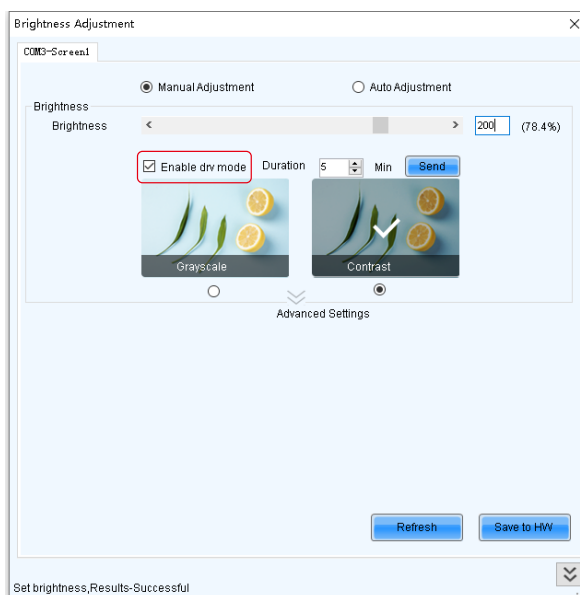

Figure 2-2
3. In brightness adjustment screen, click the **Enable Dry mode** checkbox. See Figure 2-2.